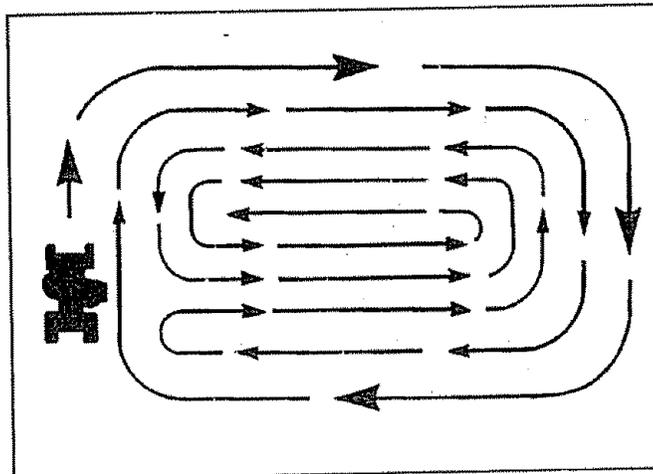

FIG. 10
- When mowing large areas, start in a clockwise direction so clippings will be discharged away from shrubs, fences, driveways, etc. After one or two rounds, mow in counterclockwise direction until finished (see Fig 10)